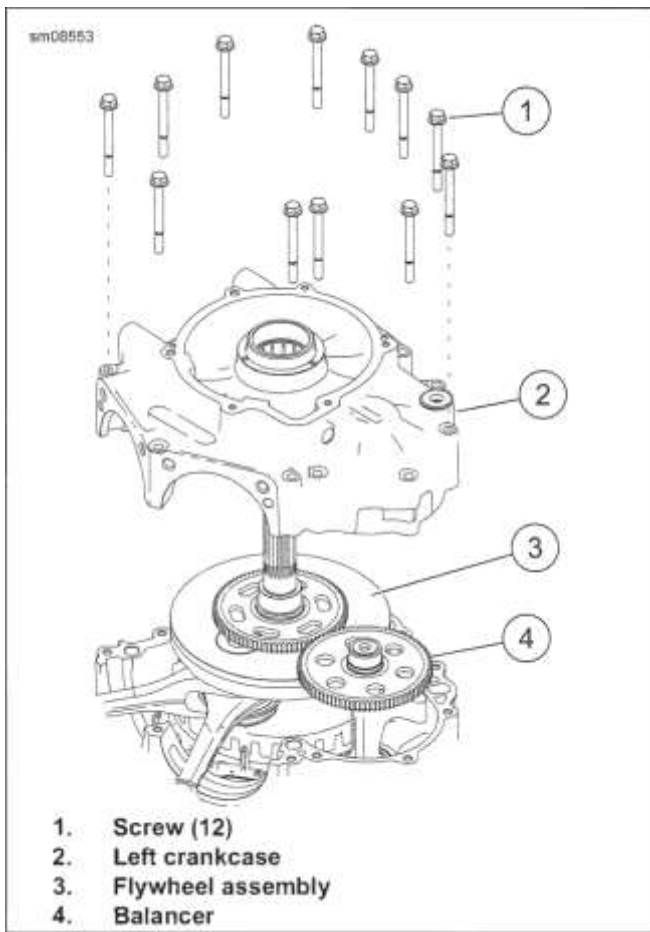

Figure 4-62. Separate Crankcase Halves
c. See Figure 4-62. Lift left crankcase half (2) off end of crankshaft.
4. Remove balancer (4).